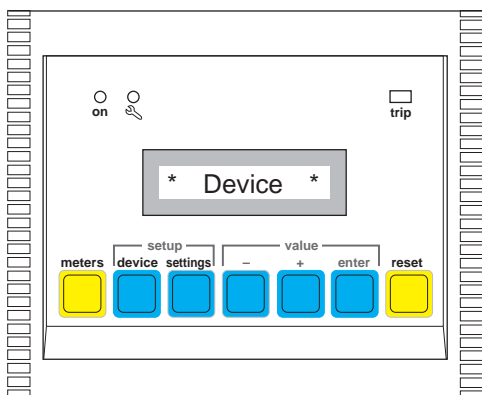

Figure 40: “\* Device \*” displayed
- a. Press and hold the *device* button for one second until “\* Device \*” displays (figure 40).